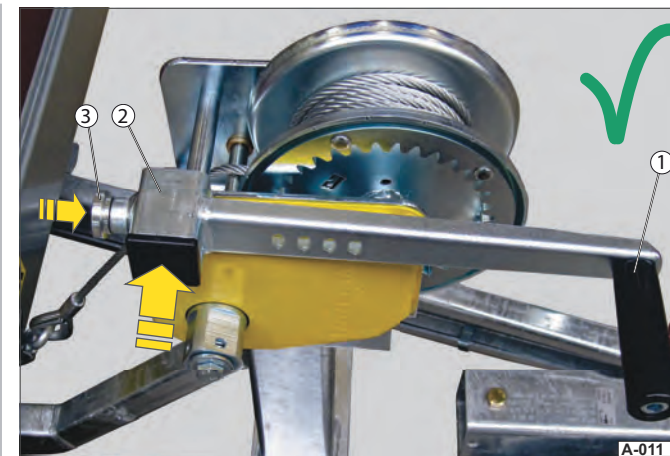

Fig. 11 Cable winch secured
- ▶ Release the crank handle (Fig. 11 /1) from the crank base - pull out locking pin (Fig. 11 /3).
- ▶ Position the crank handle on the parking bracket (Fig. 11 /2) horizontally - the locking pin must lock into the drill hole.